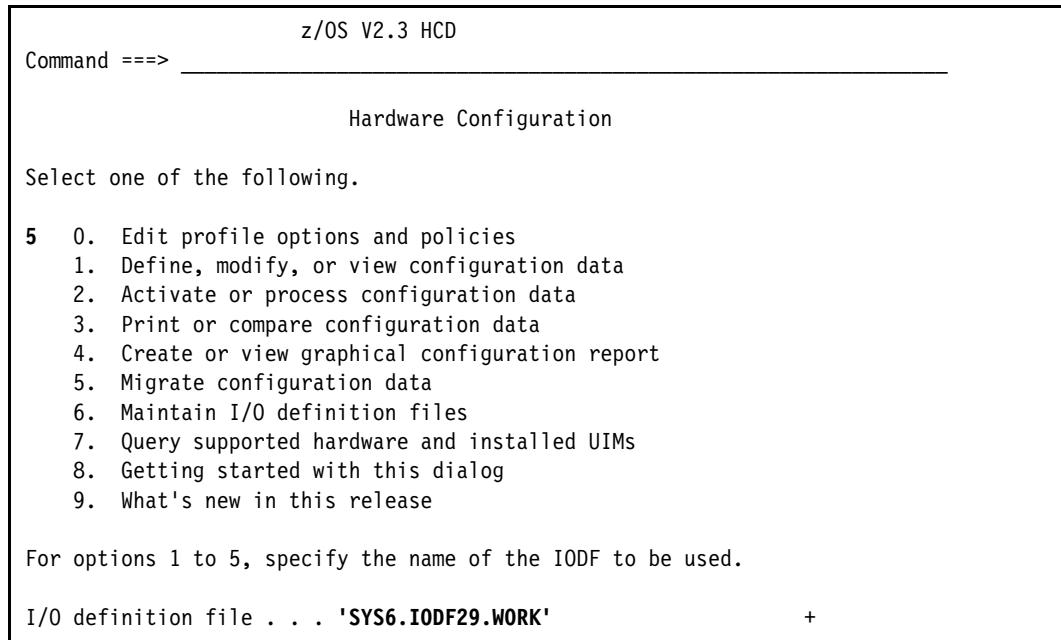

Figure 4-51 Hardware Configuration: Migrate configuration data
- From the HCD main panel, enter the work IODF name used. Select option 5. **Migrate configuration data** (Figure 4-51).